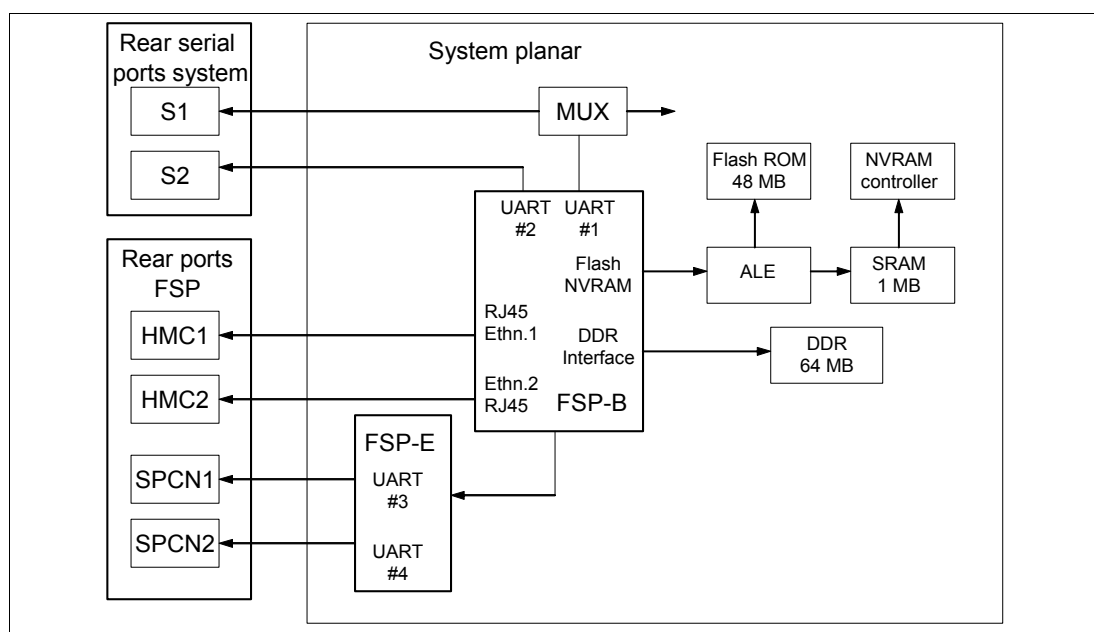

Figure 2-13 Service processor logical diagram
The service processor (SP) is an embedded controller based on a PowerPC 405GP processor (PPC405) implementation running the SP internal operating system. The SP operating system contains specific programs and device drivers for the SP hardware (Figure 2-13 on page 33).